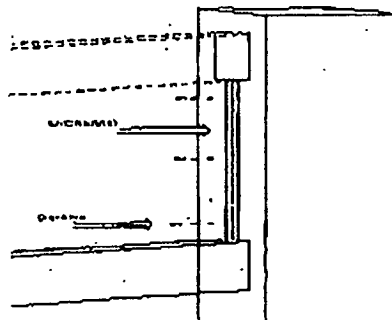

FIG. 8
Step 1. Center the U-channels on the post, between the bottom rail and the hole for the top rail with the flat side of the channels against the posts. Drill pilot holes and secure the U-channels to the posts using the #8, 3/4" stainless steel screws supplied (fig. 8).